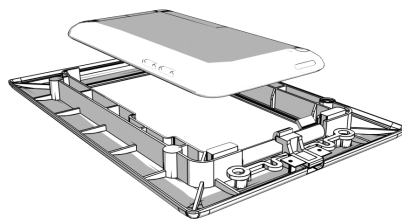

Figure 6: Insert iPod into Bezel
9. Place iPod touch into bezel. Align power button on iPod with Power Button on bezel. (See Figure 6)